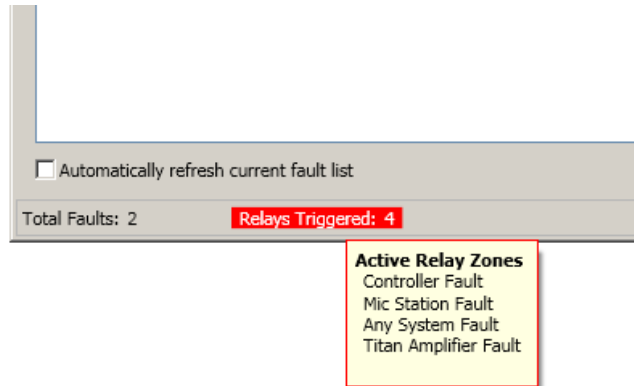

Figure 4: Relays That Are Currently Tripped Due To Fault Conditions
If System Supervision was installed to trigger relays on faults then the Viewer will also show the number of relays that have been triggered due to fault conditions in the system. Hovering the mouse over the *Relays Triggered* label will show the relays that are currently tripped, as shown in Figure 4.
- Enter a meaningful description that is to be displayed in the status bar of the *Current Faults* window (see Figure 4 above) when the relay is tripped due to a fault condition.